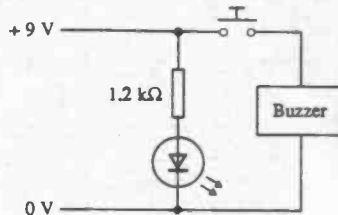

Fig. 1
- 1 The circuit shown in Fig. 1 has an LED connected in parallel with a buzzer to a 9 V power supply. A 1.2 kΩ resistor is connected in series with the LED. A switch is connected in series with the buzzer.
(g) The 1.2 kΩ resistor in Fig. 1 is replaced with a 4.7 kΩ resistor. Describe and explain what effect this would have on (i) the LED, and (ii) the buzzer. [4]